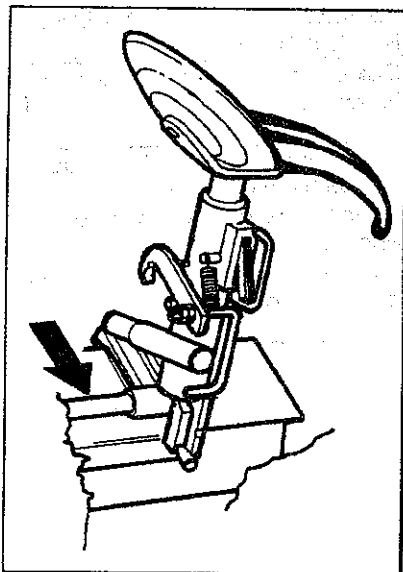

Fig.56
4. Clean and grease once a month the sliding bar of the toolholder arm (Fig.56).